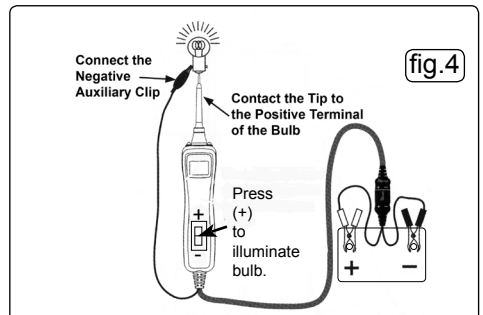

fig.4
- 3.7 Activating Components in Your Hand. See fig.4**